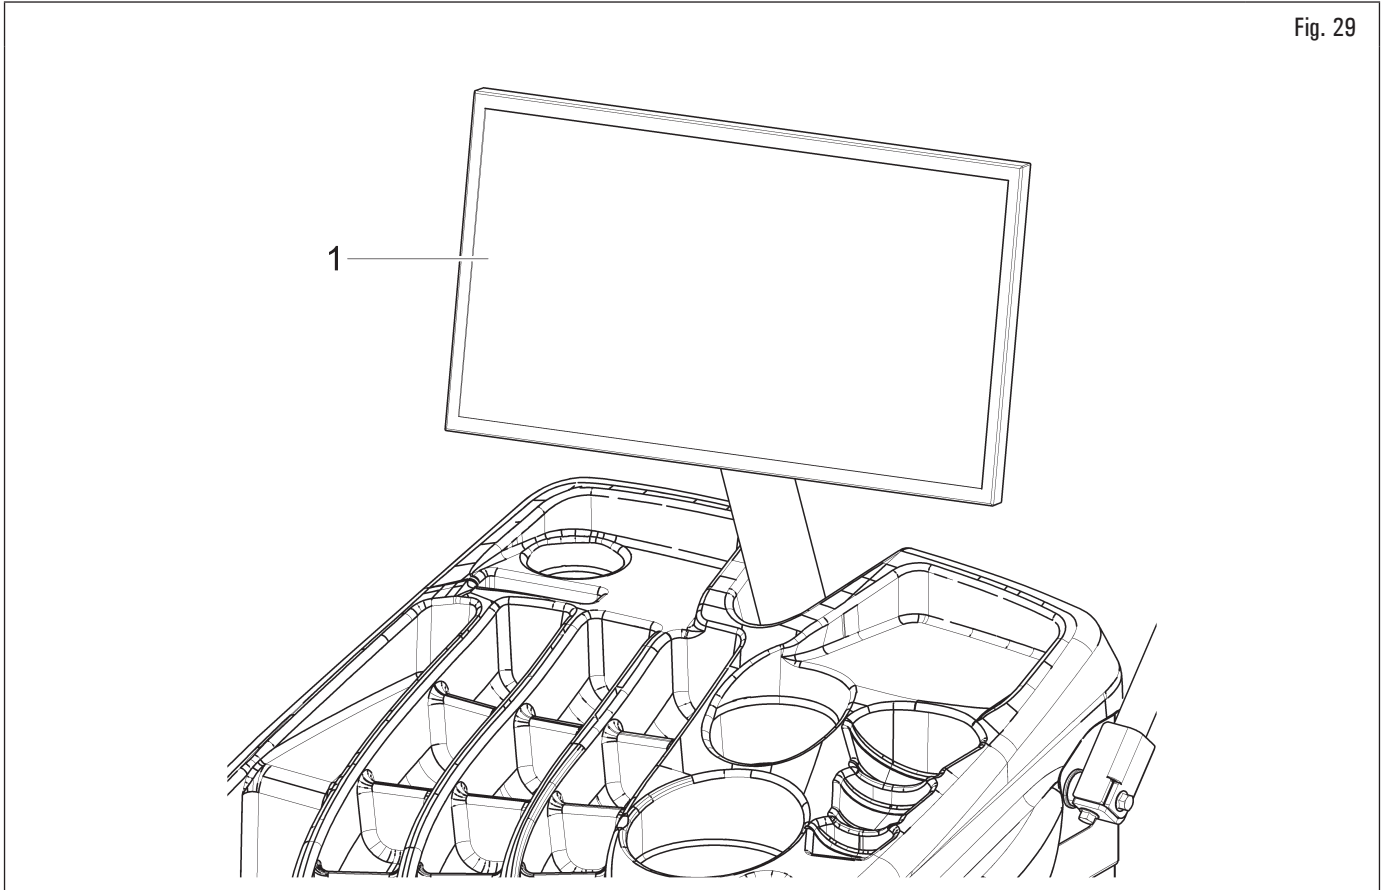

Fig. 29
The wheel balancers are equipped with a touch control panel (Fig. 29 ref. 1).